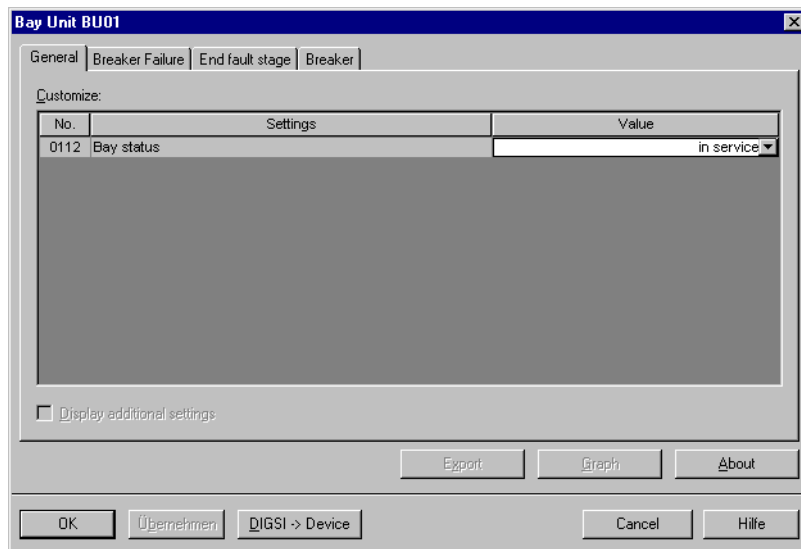

Figure 6-30 Bay status window – Example
- ☐ Double-click the desired bay unit. The window Bay Unit BU 01 opens (Figure 6-30, page 245). You can also click **Customize...**
- ❑ Double-click the desired bay unit. The window Bay Unit BU01 opens (Figure 6-30, page 245). You can also click **Customize....**